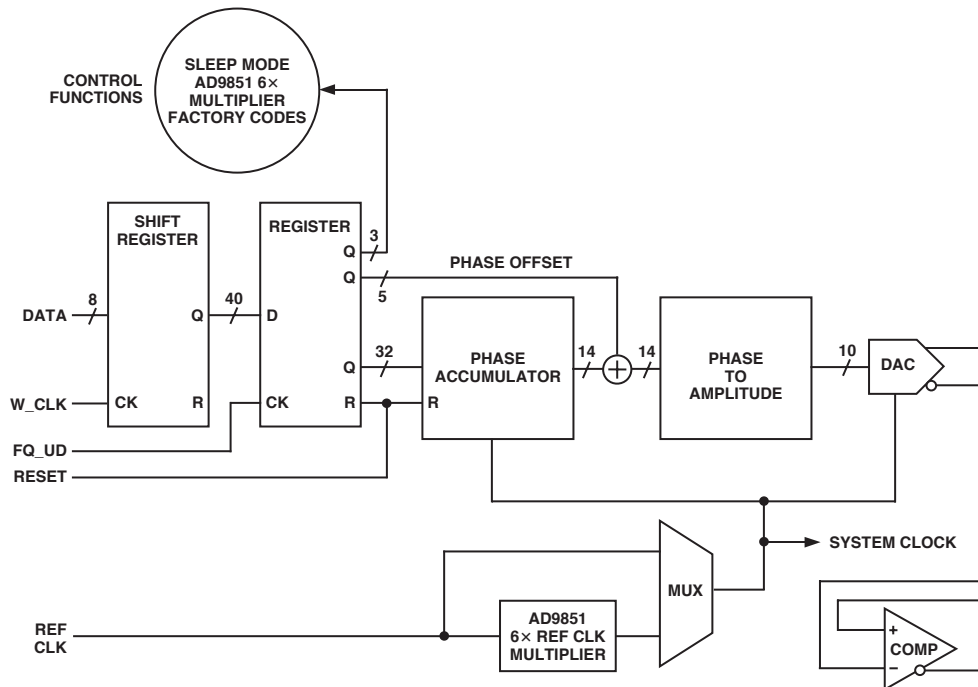
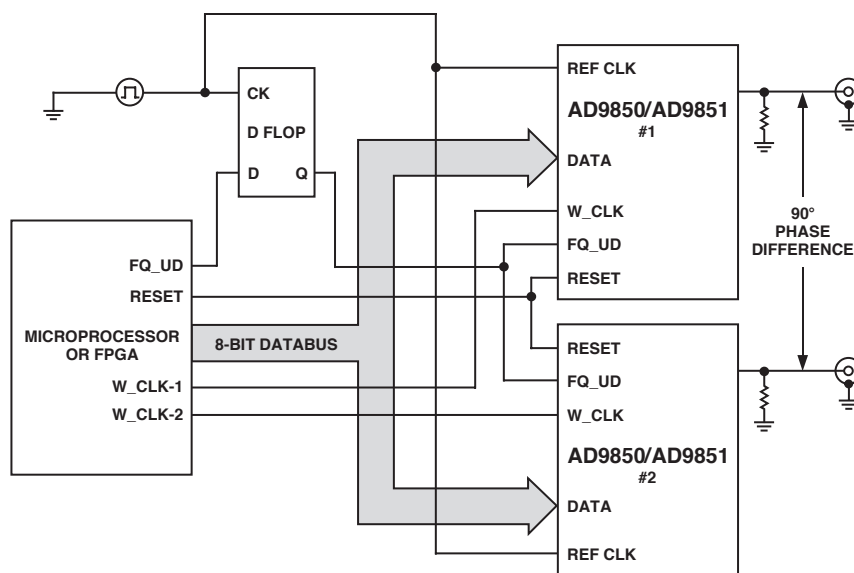
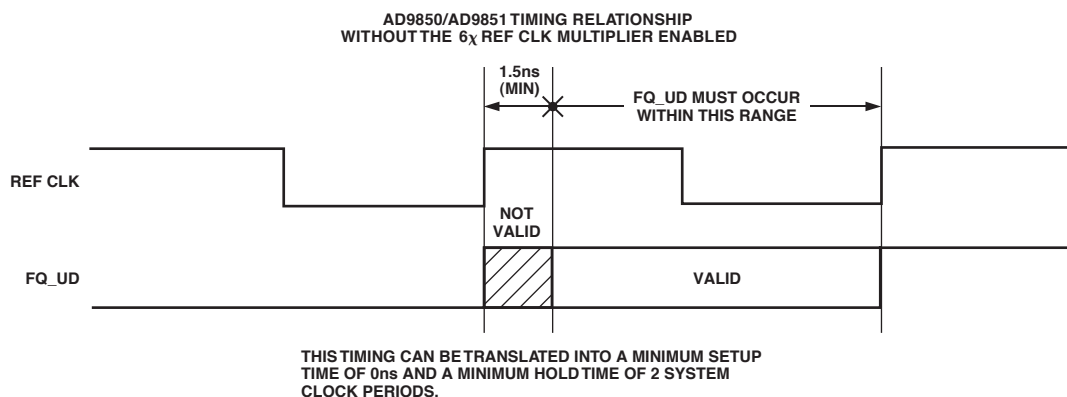

Figure 2. AD9850/AD9851 Functional Block Diagram
Figure 3. Application Circuit
Figure 4. Proper Timing Relationship between REF CLK and FQ_UD
Figure 2 is a functional block diagram of the AD9850/AD9851. There are only small differences between the two devices. The AD9851 has a 6x clock multiplier (PLL) and MUX, but the AD9850 does not.
It is essential that a proper time relationship exist between the *FQ_UD* and *SYSTEM CLOCK* (Figure 2). Improper timing of these signals can result in partial loading of the tuning word, inhibiting the synchronization of the DDSs. The *FQ_UD* must have proper setup times prior to a rising *REF CLK* edge. The proper timing will be addressed in the Synchronization Instructions section, and is shown in figures 4 and 6.
Figure 3 presents one possible reference design for successful synchronization of multiple DDSs. This example shows how to place two DDSs into a quadrature phase relationship.
In Figure 3, the D flip-flop enables the FQ_UD to be synchronous with the REF CLK and provides a setup time delay. Proper operation may require additional time delay in the FQ_UD path. This delay depends upon the CK-to-Q propagation time of the flip-flop. The recommended timing relationship between the FQ_UD (Pin 8) and the REF CLK (Pin 9) is depicted in Figure 4.
Here are some general instructions and recommendations for placing two DDSs into a *quadrature* phase relationship (refer to Figure 3). There are two sets of instructions, with and without the 6× REF CLK multiplier enabled.
6. See Figure 4 for the recommended timing between REF CLK and FQ_UD.